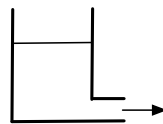

Figure 2.11: Water tank.
6. *Water tank.* Figure 2.11 shows a water tank. The arrow indicates water flowing out. Try to draw the block diagram; the answer is in the footnote.²